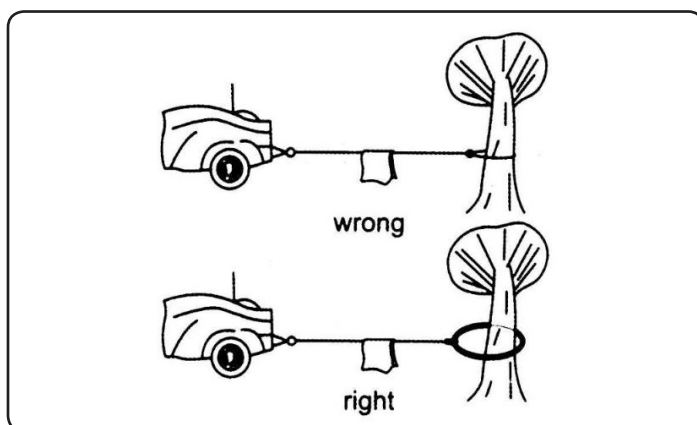

Figure 3.
- Do not wrap the cable around an object and hook it back onto itself as this can damage the cable. Use a tree trunk protector, choker chain or other designed winch anchor supports (Figure 3).
- It is recommended to lay a heavy blanket or jacket over the winch cable near the hook end when pulling heavy loads (Figure 3). If a wire rope failure should occur, the cloth will act as a damper and help prevent the rope from whipping.